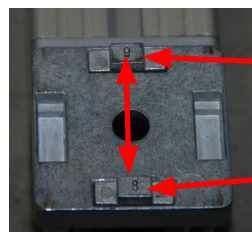
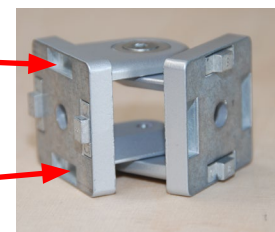
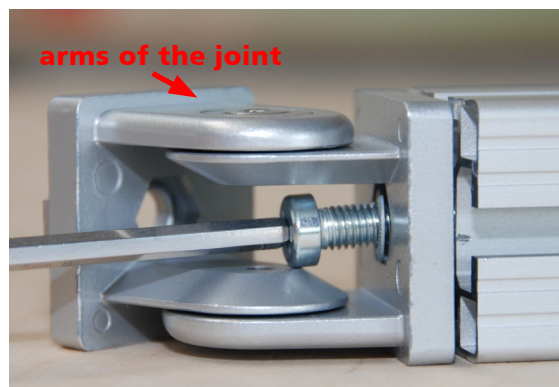

fig. 3.1-12
fig. 3.1-13
fig. 3.1-14
**Step 8** At first, the four (4) threaded inserts will be screwed into the open ends of the angles braces (**A1g**) using a **9 mm | 0.35 inch** slot screwdriver. In order to attach the joints **A1f** to the angles braces, put two (2) adjusting blocks opposite of each other into the provided holes. It is very important to insert the adjusting blocks into the holes at the sides where the arms of the joints are located and that the number 8 on top of the adjusting blocks points outwards. (fig. 3.1-12 and fig. 3.1-13). You will find that the adjusting blocks marked with number 8 will fit exactly into the lead channels. Now position the joints at the ends of the angles braces and bolt them together using the four (4) socket head screws **M8x25**, the washers and the corresponding Allen key. (fig. 3.1-14).